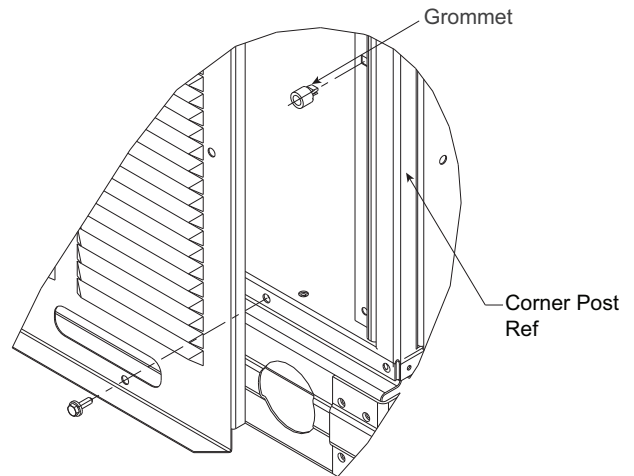

Fig. 3 — Grommets in Corner Post
4. Insert (4) plastic grommets in the square holes of each corner post as shown in Fig. 3.